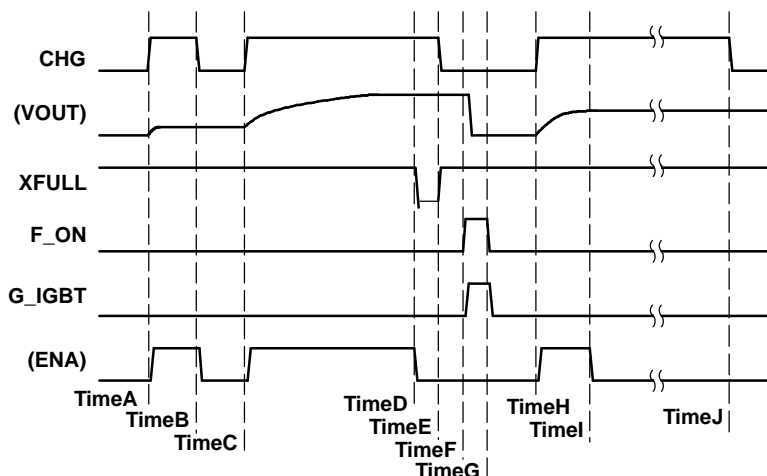

Figure 4. Whole Operation Sequence Chart
The only way to *start* charging is to input $\text{CHG}\uparrow$ (see time A/C/H in Figure 4). Each time $\text{CHG}\uparrow$ is reached, the TPS65552A starts charging.
1. Forced *stop* by inputting $\text{CHG} = \text{L}$ from the controller (see timeB in Figure 4).
2. Automatic *stop* by detecting full charge. VOUT reaches the target value (see TimeD in Figure 4).
3. Protected *stop* by over V_{DS} detection (see TimeI in Figure 4).
The device starts charging at *timeH*, and over V_{DS} protection occurs at TimeI (see Figure 4). At timeI, XFULL stays H, and the controller detects over V_{DS} protection when the timer ends at timeJ. In this event, the controller inputs $\text{CHG} = \text{L}$ to terminate the operation.
The IGBT driver provided by the TPS65552A is a simple buffer in the logical table. Table 3 shows the function (see Figure 4).
To avoid the stress of power dissipation, the TPS65552A provides an overvoltage monitor function at the SW terminal. If this protection occurs, the overvoltage status is latched (see Figure 4 and its descriptions).